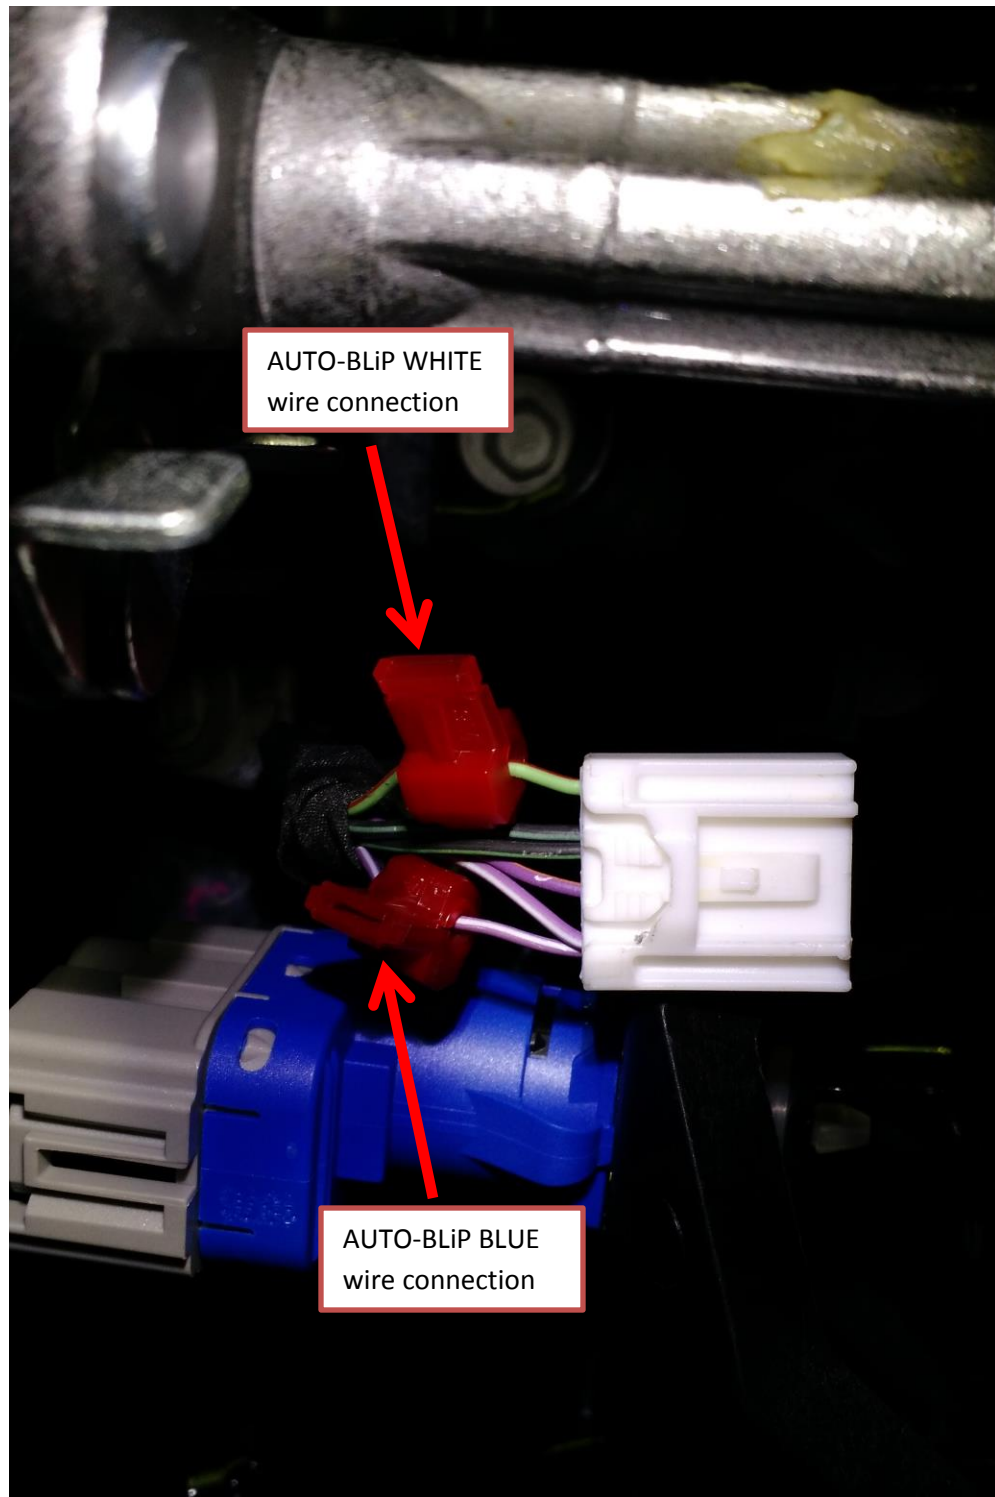

Figure 2 (Brake pedal switch connector)
3. Connect **AUTO-BLiP WHITE (WT)** wire to pin 1 of the Brake Pedal Switch. After unplugging this connector from the brake pedal switch, look at it from the side where the wires go into the white connector. Pin 1 is the first position on the LEFT with the locking tab on top (**Fig 2**).
4. Connect **AUTO-BLiP BLUE (BL)** wire to the wire on the opposite side (right) of the same Brake Pedal Switch as outlined on step 3 above (**Fig 2**).